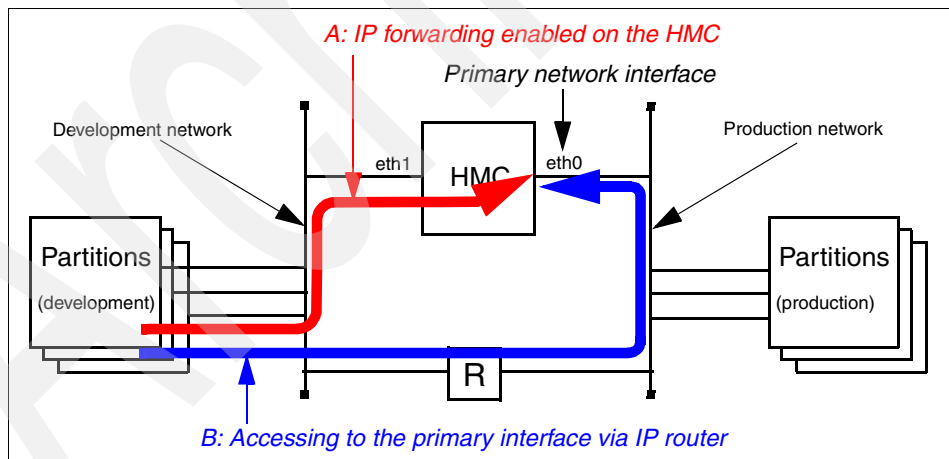

Figure 8-4 Primary network interface must be IP-reachable from all partitions
Because the HMC supports two Ethernet interfaces, it is possible to have two network segments to separate partitions, as shown in Figure 8-4.
Note: the primary network interface shown in Figure 8-4 is determined by the Host Name field in the Hosts tab of the “Network Configuration” application (see Figure 4-8 on page 87).
However, the primary network interface on the HMC must be IP accessible from all partitions regardless of the subnet on which they are connected. This can be achieved by either allowing IP forwarding on the HMC⁶ (shown as A in Figure 8-4 on page 166), or by having an IP router between two segments (B).